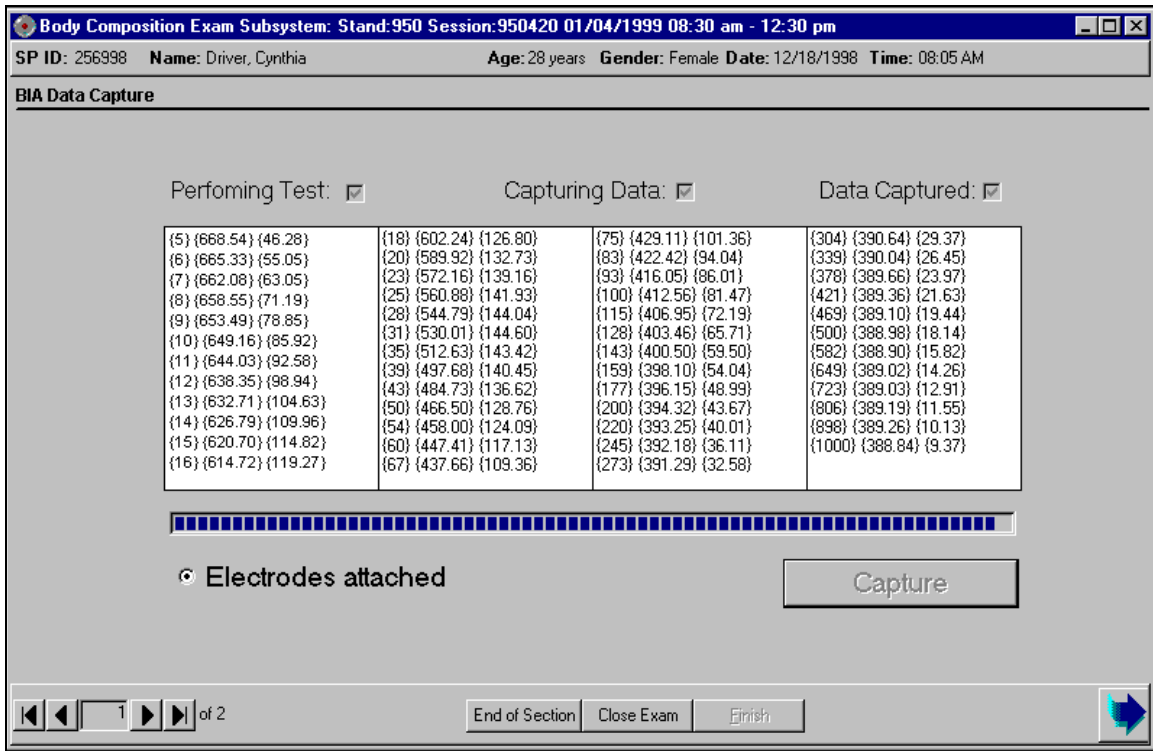

Figure 4-34. BIA data capture (3)
- When all the data have been captured, the system will check the 'Data Captured' button. See Figure 4-34.